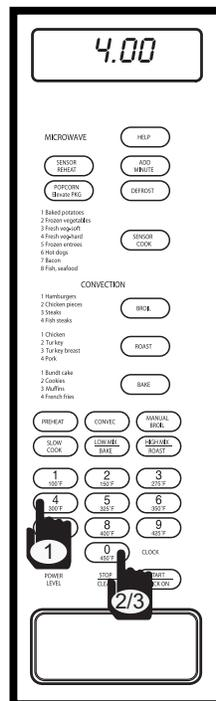

Figure 3-49. Enter Amount of Cooking Time
5. Enter desired cooking program. This example will use Manual Cooking. Enter time duration. For example: 4 minutes; press the number 4 key, and number 0 key twice (See Figure 3-49), and the display will flash "4.00 - PRESS - START - OR - PRESS - POWER - LEVEL".